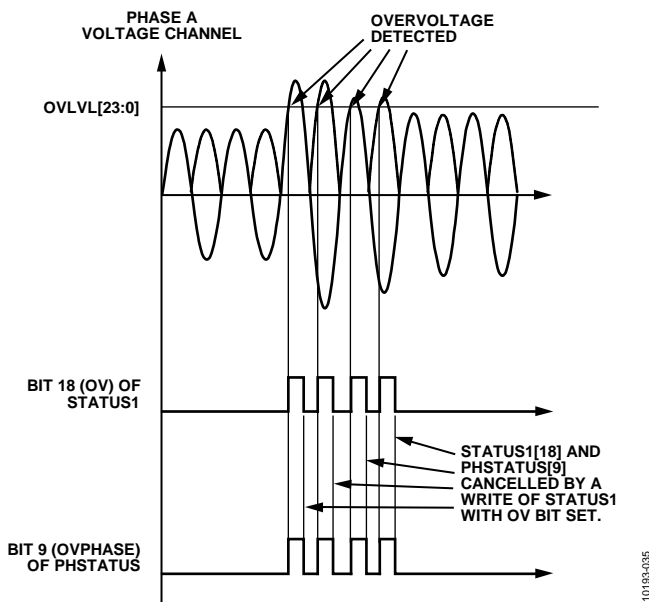

Figure 50. Overvoltage Detection
The ADE7978 detects when the instantaneous absolute value measured on the phase voltage and current channels becomes greater than the thresholds set in the OVLVL and OILVL 24-bit unsigned registers. If Bit 18 (OV) in the MASK1 register is set, the $\overline{\text{IRQ1}}$ interrupt pin is driven low in case of an overvoltage event. There are two status flags set when the $\overline{\text{IRQ1}}$ interrupt pin is driven low: Bit 18 (OV) in the STATUS1 register and one of Bits[11:9] (OVPHASE[2:0]) in the PHSTATUS register to identify the phase that generated the overvoltage. The Status Bit 18 (OV) in the STATUS1 register and all Bits[11:9] (OVPHASE[2:0]) in the PHSTATUS register are cleared, and the $\overline{\text{IRQ1}}$ pin is set to high by writing to the STATUS1 register with the status bit set to 1. Figure 50 presents overvoltage detection in the Phase A voltage.